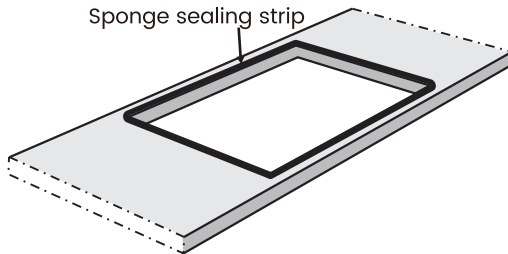

Fig.10
e. Please make sure the sponge sealing tape is properly attached to the edge of the cut-out(Fig.10).